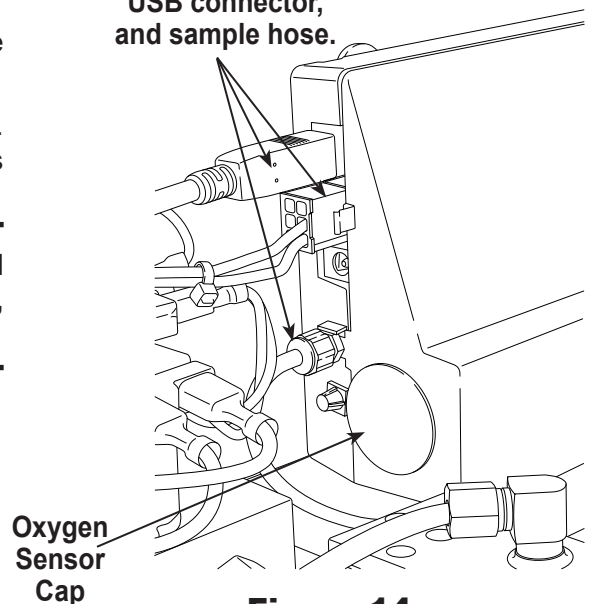

Figure 14
3. Disconnect the wire harness, USB connector, and sample hose from the identifier. See Figure 14.